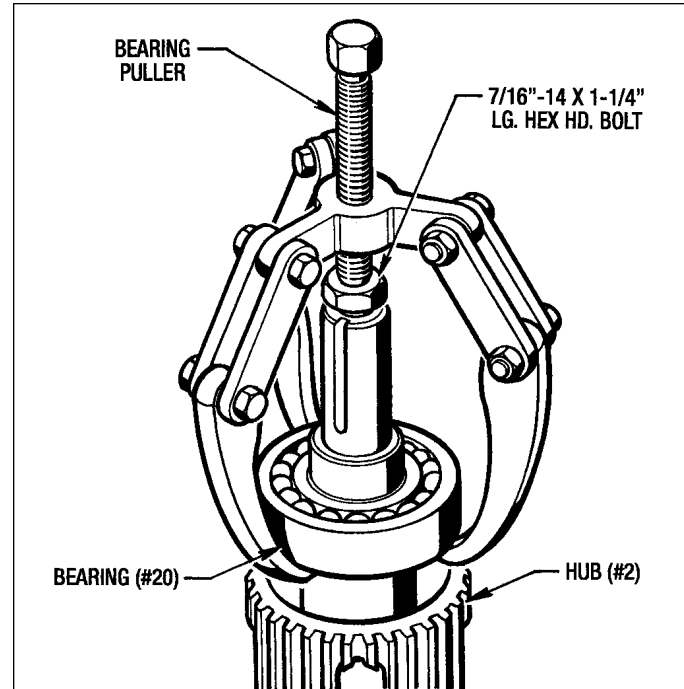

Figure 7.6 - Removing Bearing (#20)
1. Use a standard Bearing Puller to remove the Bearing (#20) off the Hub (#2) as shown in *Figure 7.6*.